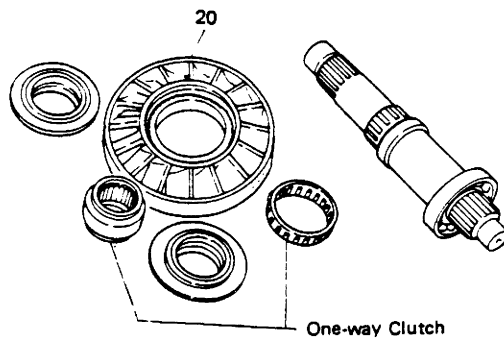

Fig. 5-5 (A)
- (10) Remove thrust washer (21) and needle thrust bearing (22), in that order. Fig. 5-5 (A) shows